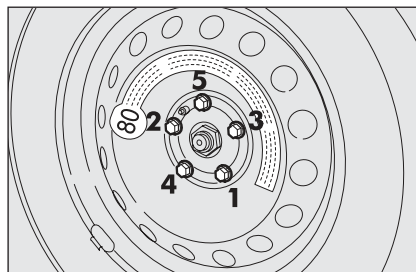

fig. 11
- ☐ Use the wrench provided to fasten the bolts completely in a criss-cross fashion according to the sequence shown in **fig. 11**.
- ☐ Using the wrench provided, fully tighten the bolts in the sequence shown in **fig. 11**;
- ☐ lower the car and remove the jack, then, using the wrench provided tighten the bolts according to the sequence previously shown for the space-saver spare wheel **fig. 11**.